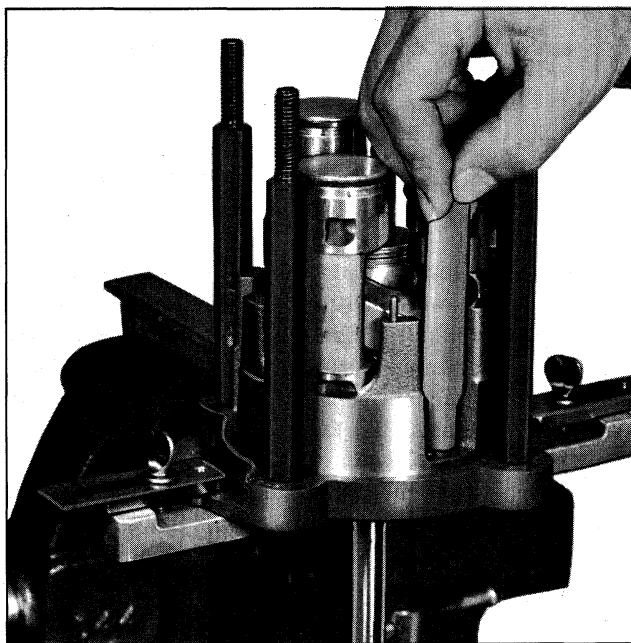

Fig. 5-28 Installing Service Discharge Crossover Tube
3. Assemble one end of service discharge crossover tube into hole in front cylinder (Fig. 5-28).